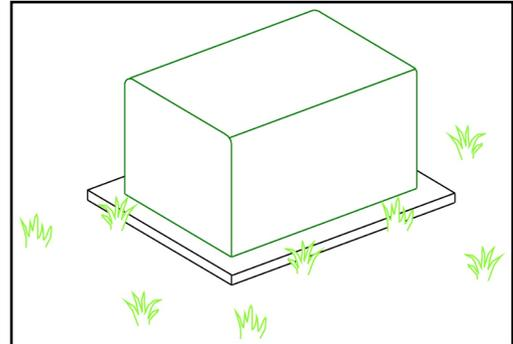

Figure 2: Padmount Transformer
- Underground service is over 150 feet from a padmount transformer (See Figure 2).